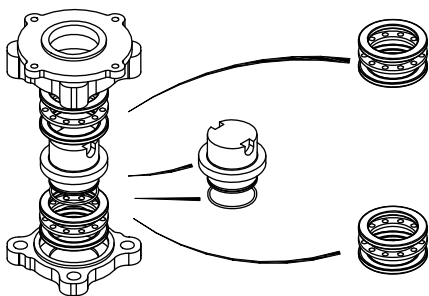

Fig. 1-1
1) Turn actuator onto its side, remove the two cap-headed screws holding base plate onto thrust base, pull out the drive bush complete with its bearing assembly. Remove the thrust bearing of the drive bush's double end (The two thrust bearings stopper ring near the mid bulgy – shoulder of the drive bush may not be removed.) (Refer to Fig. 1-1).